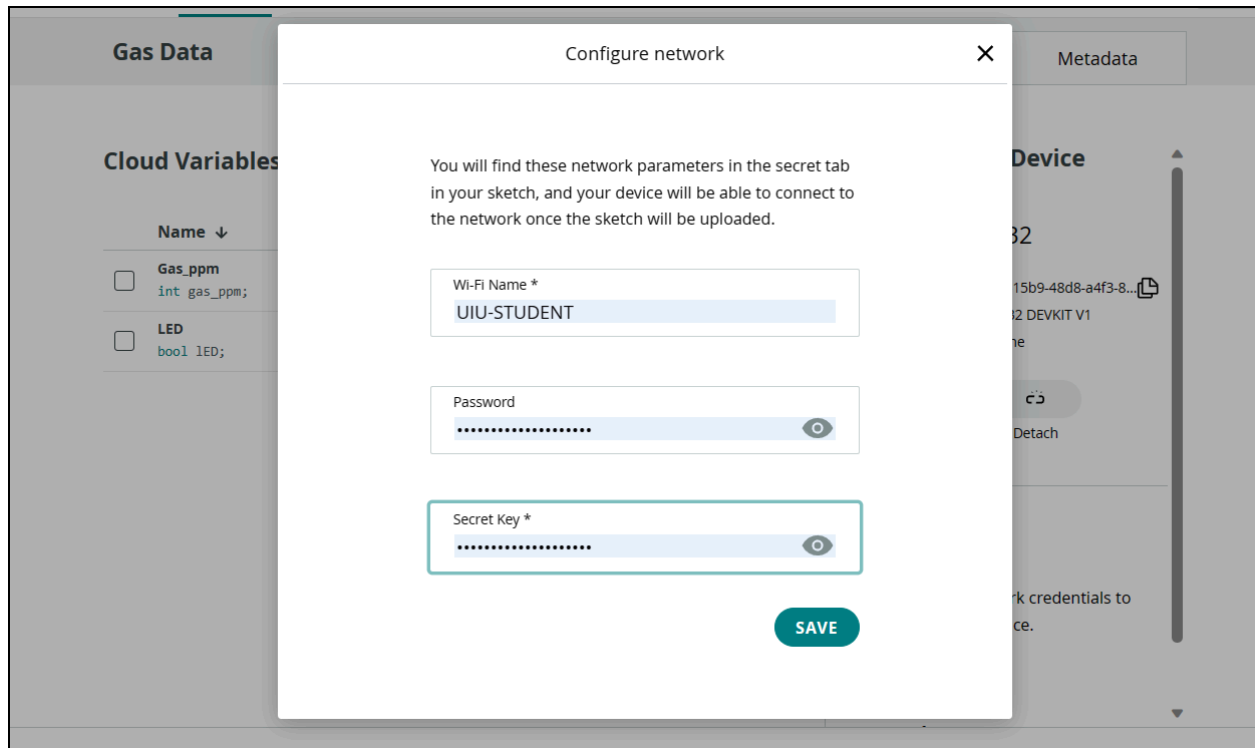

Fig. 18: Entering Network Credentials
2. Then, enter the credentials (network name[Your WiFi you are connected to], network password[Your WiFi password], and secret key[Secret key you got while setting up things]) as shown in Fig. 18.. Click "Save" when finished.